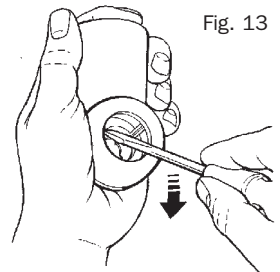

Fig. 13
1. Remove riser rail bracket location collars with a screwdriver, see Fig. 13.